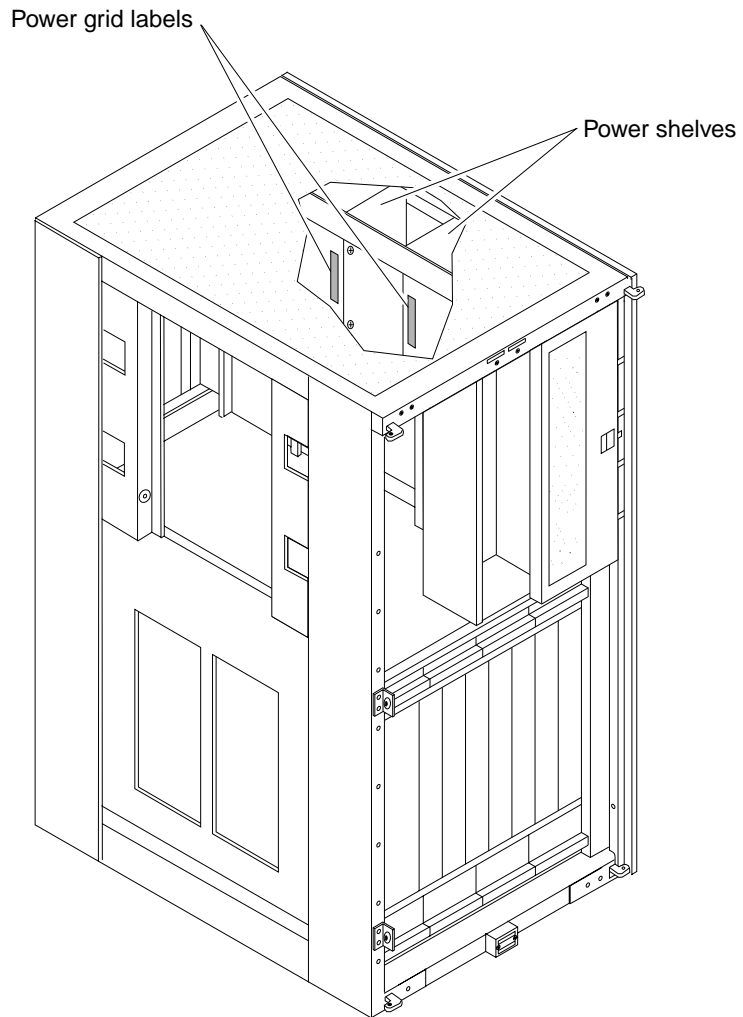

FIGURE 1 Apply Power Grid Labels to Power Shelves—Typical
- 1. Install labels “POWER GRID A” to the upper inside of the existing power shelves (FIGURE 1).**
Install the labels in a similar position as on the existing power shelves (FIGURE 1).